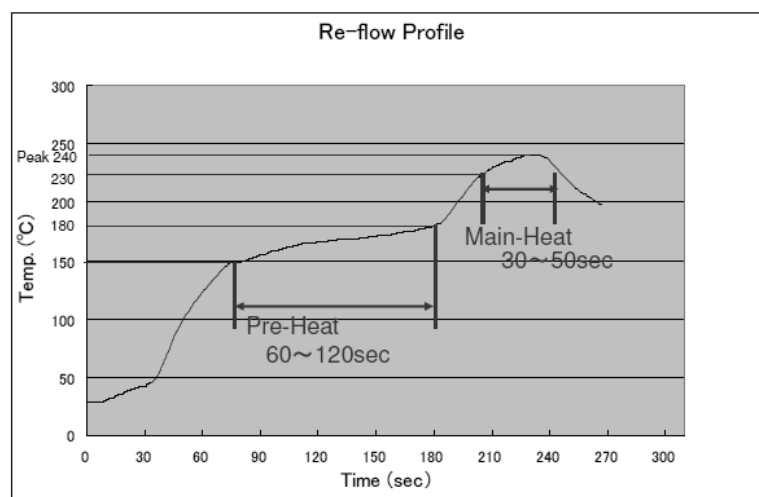

Fig.1 Example of recommended temperature profile for reflows
- 5) Caution : This product does not support a Re-flow with Pb-Sn solder. Pb-free solder should be used to Re-flow with Fig1's profile.
\* The temperature profile is specified in terms of the temperature of top surface of the device. This temperature profile shows maximum guaranteed device temperature. Please set up the optimum temperature profile conditions within the Fig.1 profile.